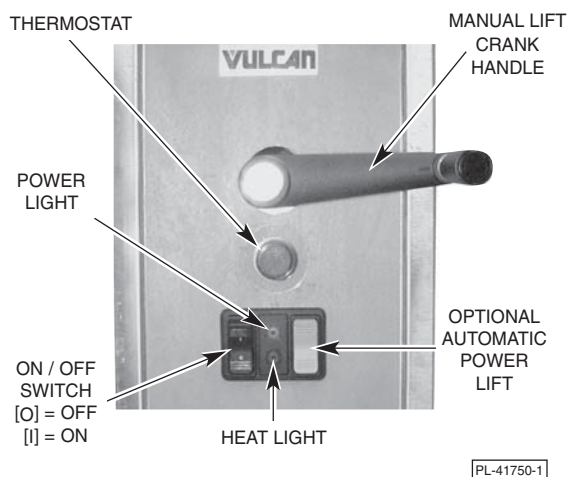

Fig. 3
Controls (Fig. 3)
Controls (see Fig. 3)
2. The pan lift is controlled by the gray rocker switch located on the control panel (see Fig. 3).